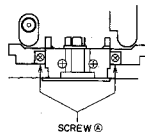
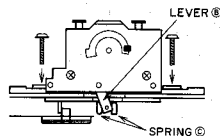

Fig. 3-3
Fig. 3-4
- 1) Remove two screws ⑤, then remove HEAD BLK.
- 2) When reassembling the HEAD BLK, be sure that the LEVER ⑥ is set into the SPRING ⑦ as shown Fig. 3-4, then secure two screws ⑤ as shown Fig. 3-3.